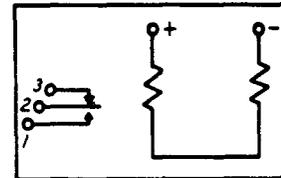

FIG 17 - WINDING TERMINAL ARRANGEMENT AS VIEWED FROM THE REAR (TERMINAL SIDE)-177 AND 203 TYPE RELAYS
2.15 As viewed from the front of the relay the front contacts are indicated by 1 and 4, the travel springs (the springs picked up by the hard rubber bridge) by 2 and 5 and the back contacts by 3 and 6. The winding terminal designations as viewed from the rear of the relay are shown on Fig. 17. The designations + and - illustrated in Fig. 17 indicate which polarity of the battery should be connected to this point.